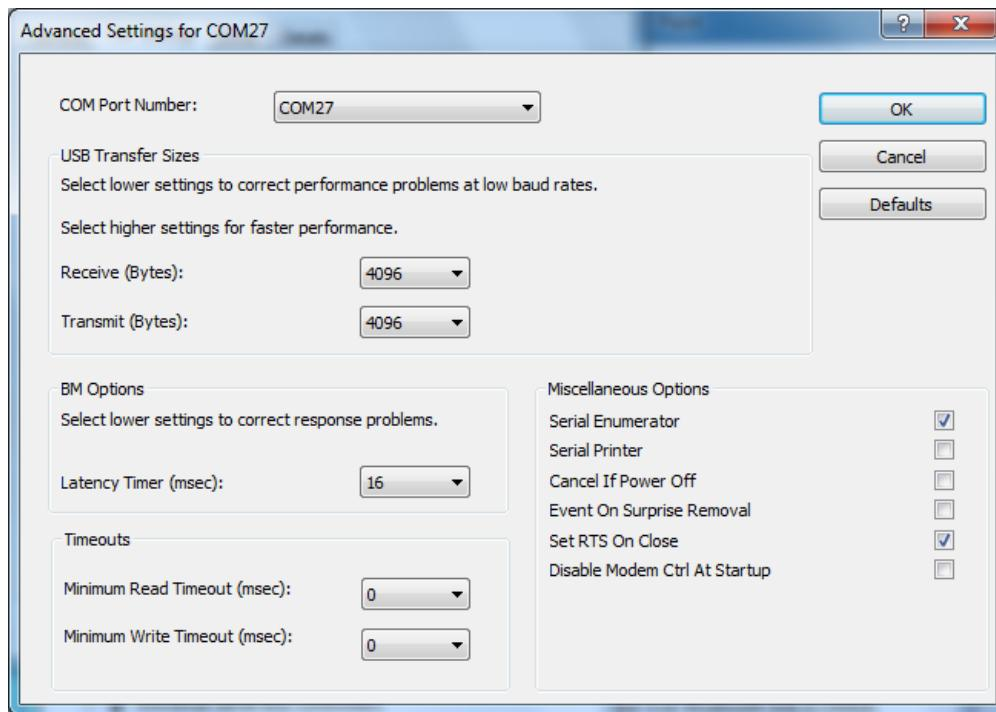

Figure 3-8 Advanced Port Settings: Select Set RTS On Close
- V. Double-click on **each** of these *USB Serial Port* entries and, under the *Port Settings* tab, click on *Advanced....* In the *Miscellaneous Options* at the bottom right-hand side of the window, ensure that *Set RTS On Close* is ticked, as shown in Figure 3-8.